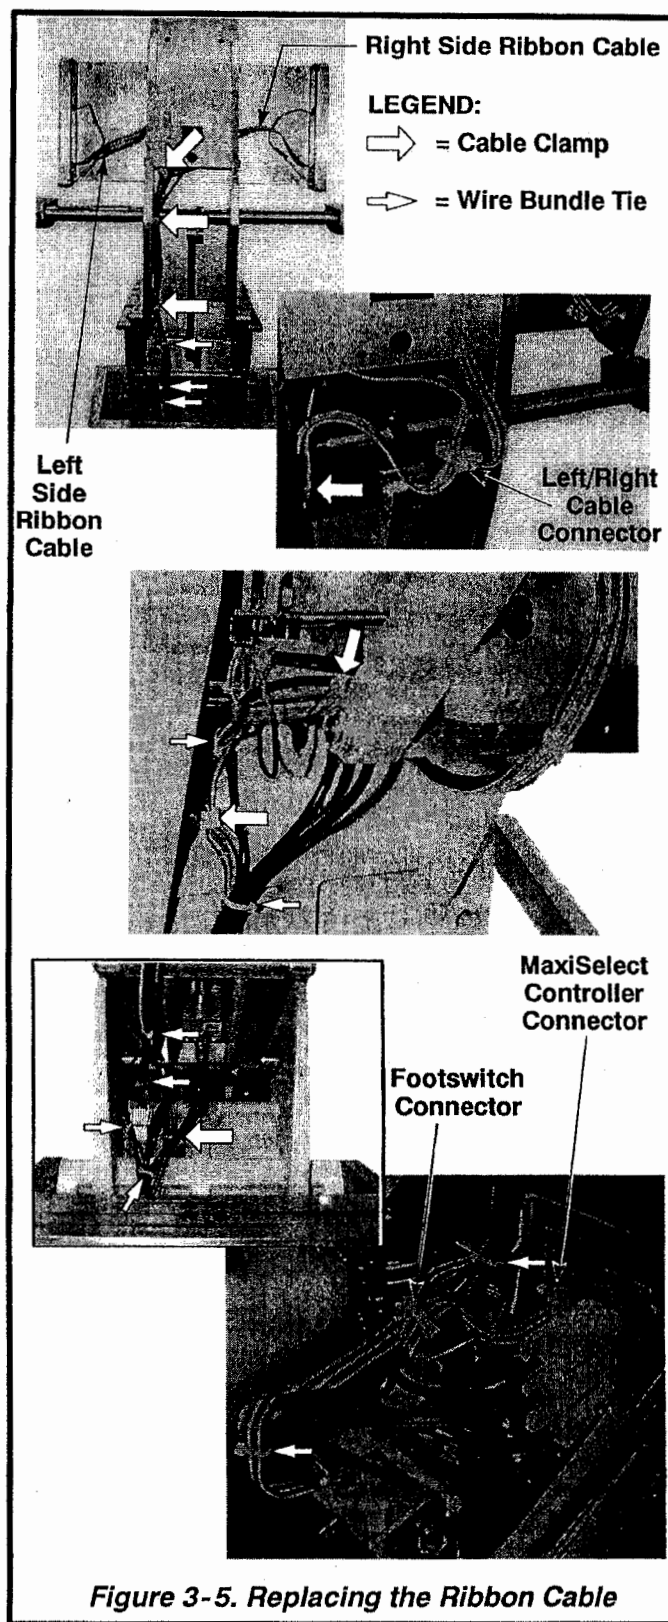

Figure 3-5. Replacing the Ribbon Cable
- 2. Replacing Ribbon Cable:** Once it has been determined that the left side Ribbon Cable is faulty, it should be removed and replaced with a new one. Refer to Figure 3-5 and proceed as follows.